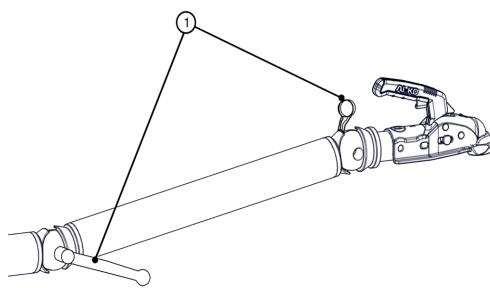

Figure 5 - Tow Head Adjustment
1. Turn the locking handle located on the side of the head, in an anticlockwise direction to allow the locking ring to disengage from its opposing ring (Figure 5, Item 1).